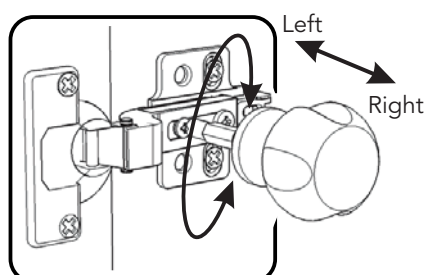

Figure 17
If needed, adjust Doors (P) and (Q) left to right. (See Figure 17)